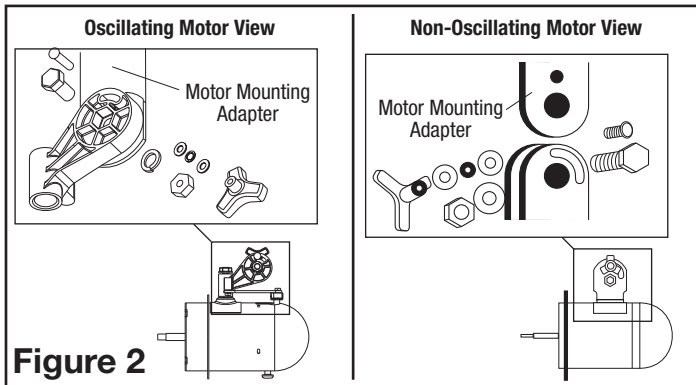

Figure 2
10. **For Oscillating Motor:** place the flat section on the motor mounting adapter next to the motor neck (**Figure 2**).
11. **For Non-Oscillating Motor:** slide the motor neck slot over the motor mounting adapter. Align the 1/2" diameter hole in the adapter with the 1/2" diameter holes in the motor neck slot (**Figure 2**).
12. Insert the 1/2" x 1" hex bolt (3/4" head) through the motor neck, and the motor mounting adapter. Place 1/2" diameter split lockwasher then the 1/2" diameter hex nut (3/4" head) and tighten fully with 2 adjustable wrenches (**Figure 2**).
13. From the same side of the motor neck, insert one 1/4-20 x 1-5/8" carriage bolt through the arc-shaped slot in the motor neck and hole in the motor mounting adapter (**Figure 2**).
14. **To Fasten:** Place one 1/4" flatwasher, one 1/4" internal tooth lockwasher, a second 1/4" flatwasher and then tighten the adjustable knob over the remaining threads (**Figure 2**).